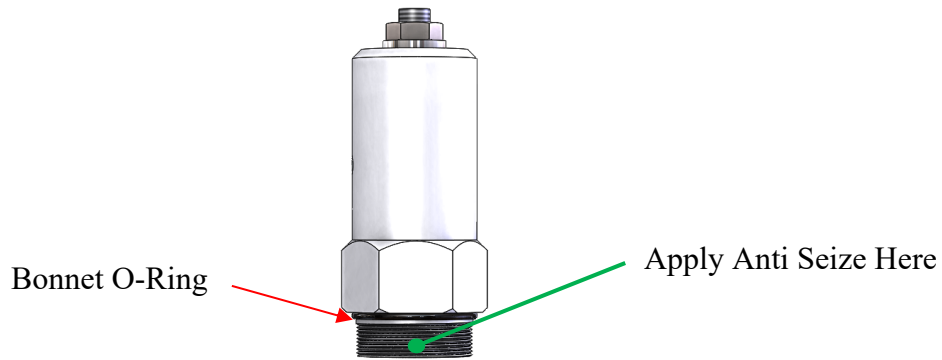

Figure 52: Snap Pilot Bonnet
23. Install the bonnet o-ring onto the bottom of the pilot bonnet. See Figure 52.
24. Lightly apply a small amount of anti-seize to the threads of the bonnet. See Figure 52.